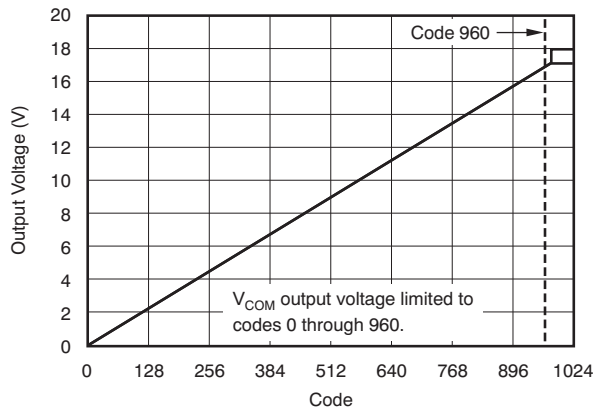
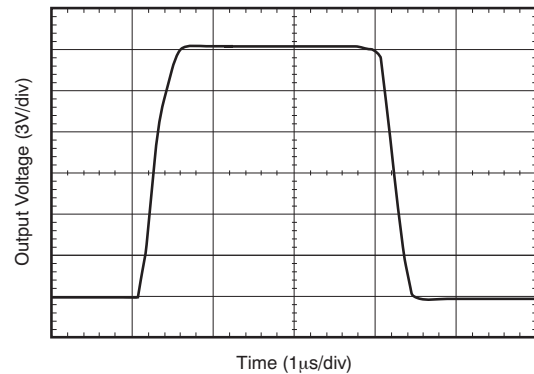

Figure 3.
Figure 12.
(2) See Figure 12, Large-Signal Step Response, V_{COM}.
(3) Observe maximum power dissipation.
(4) The V_{COM} output voltage is limited to codes 0 through 960; see Figure 3. This limitation is for V_{COM} only and does not affect DAC OUT, 1 through 8.
(5) Thermal pad attached to printed circuit board (PCB), 0lfm airflow, and 76mm × 76mm copper area.